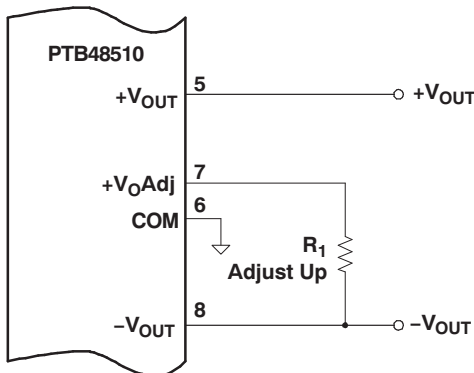

Figure 16. TITLE??
**Adjust Up:**3 To increase the magnitude of both output voltages, place a resistor  $R_1$  between  $\pm V_{OAdj}$  (pin 7) and the  $-V_{OUT}$  (pin 8) voltage rail; see Figure 16.